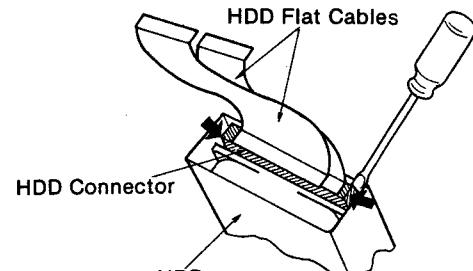

Figure 19A
- (4) Carefully remove the HDD flat cables from the HDD by using a small flat head screw driver as shown in Figure 19A.